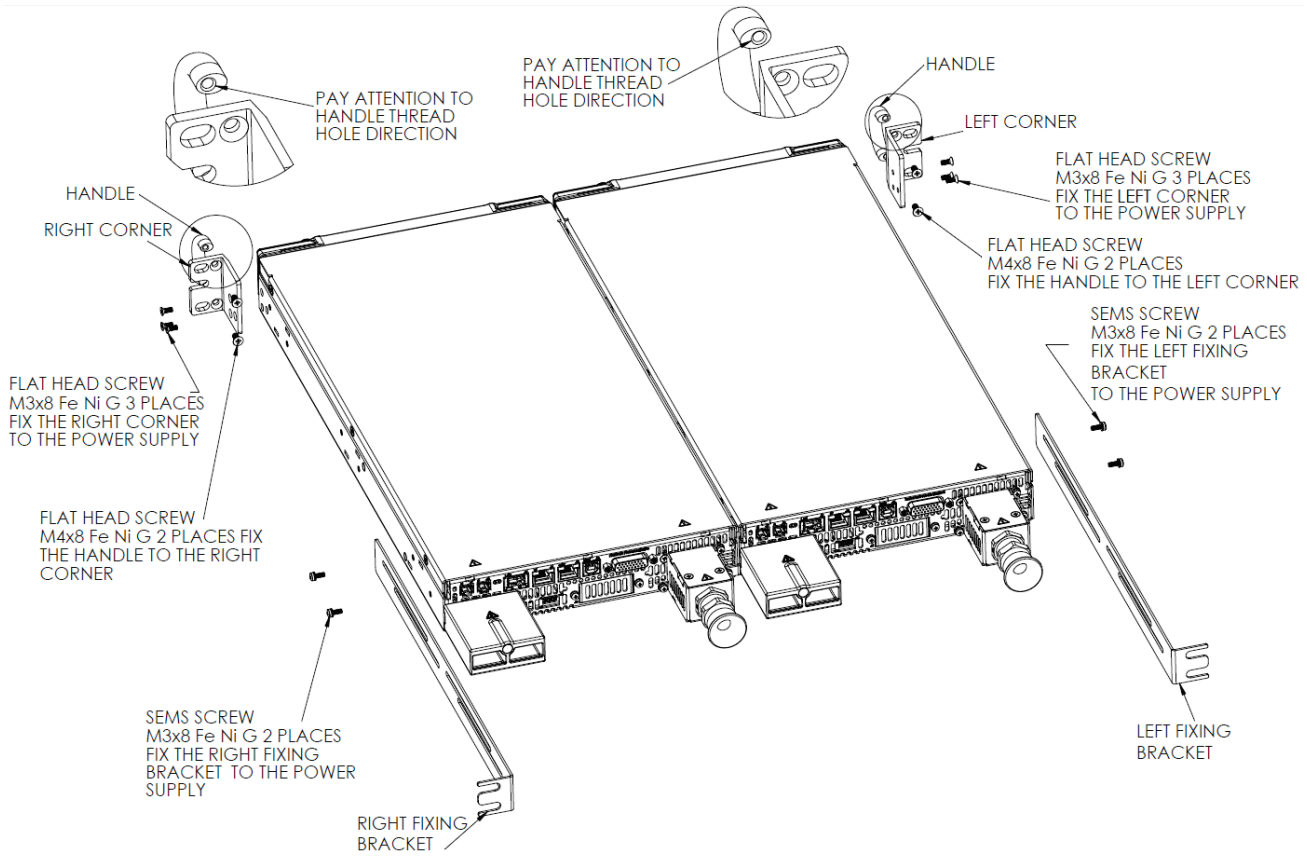

Figure 4-10: Assembly Completion
- Fix the left and right corners and handles to the front side of the units, and the left and right fixing brackets to the side of the units as shown in Figure 4-10.